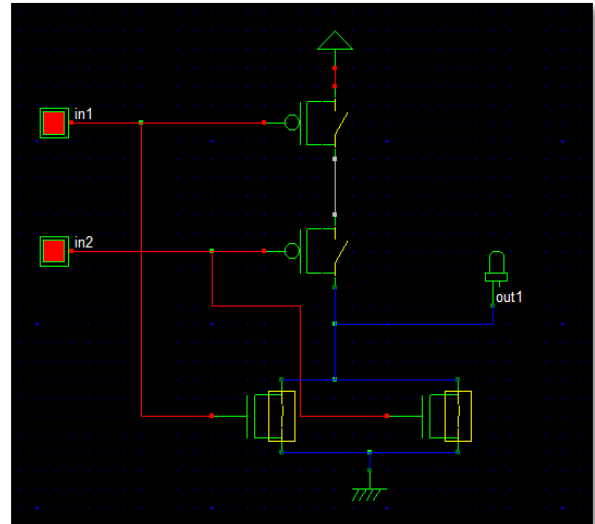

Figure 25: inputs 1,1
- Open the layout editor window in Microwind. Click File -> Select Foundry and select Y.rul. This sets your layout designs in Y technology. See figure 25: